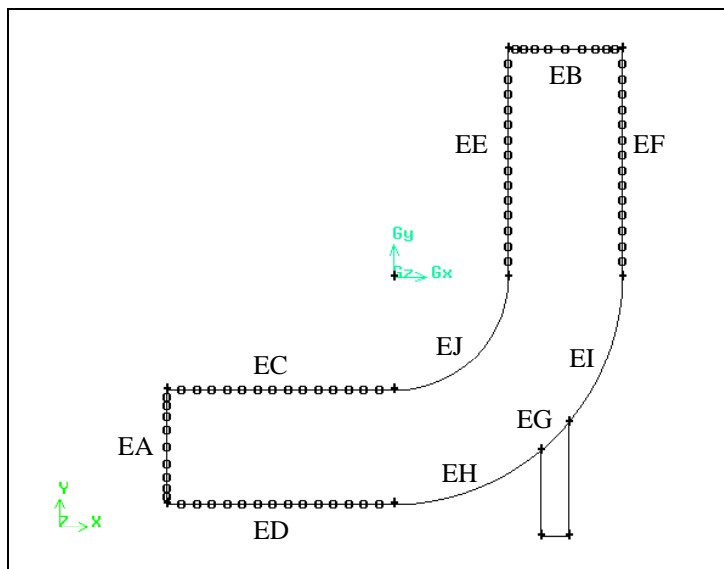

Figure 2-17: Mesh on the straight edges of the large pipe
Figure 2-17 shows the mesh on the straight edges of the large pipe.
- a) Select the edge marked EG in Figure 2-17.
- a) Select the edge marked EH in Figure 2-17. The arrow should point towards the small pipe. *Shift*-middle-click the edge to reverse the direction of the arrow if necessary.
- b) Select the edge marked EI in Figure 2-17. The arrow should point towards the small pipe. *Shift*-middle-click the edge to reverse the direction of the arrow if necessary.